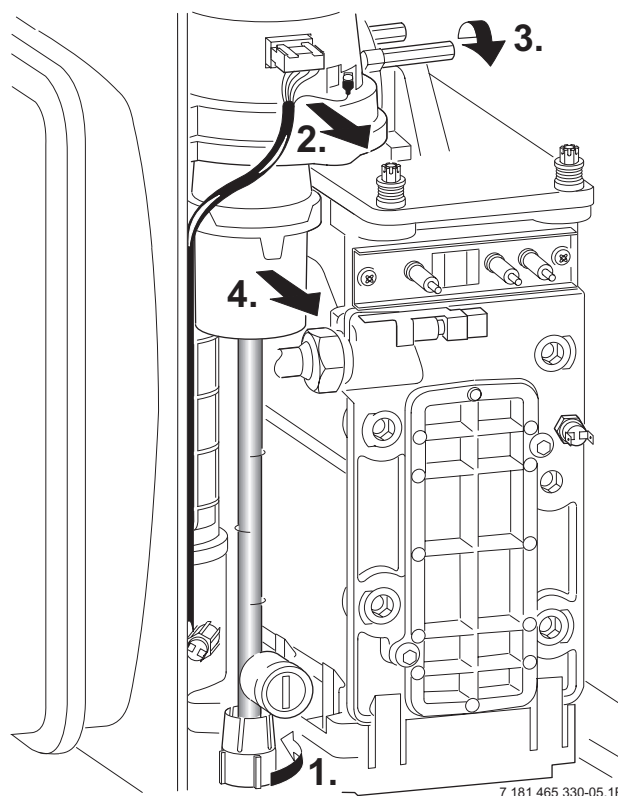

Fig. 57
- ▶ Undo lower pipe union on gas pipe (1.). Refer to fig. 57.
- ▶ Undo the union, within the inner casing, securing the valve to the gas/air tube. Refer to fig. 57.